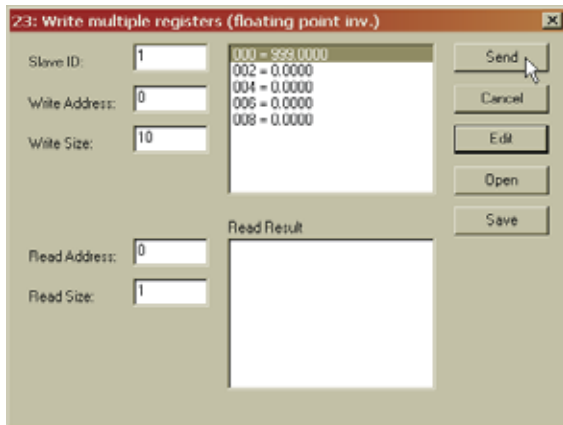

FIG. 180: HARDY MODBUS-LINK/WRITE MULTIPLE REGISTERS/SENDING NEW VALUE
Step 12. Click on OK. The Write Multiple Registers display appears with "999.0000" in place of "555.0000". (See Fig. 180)